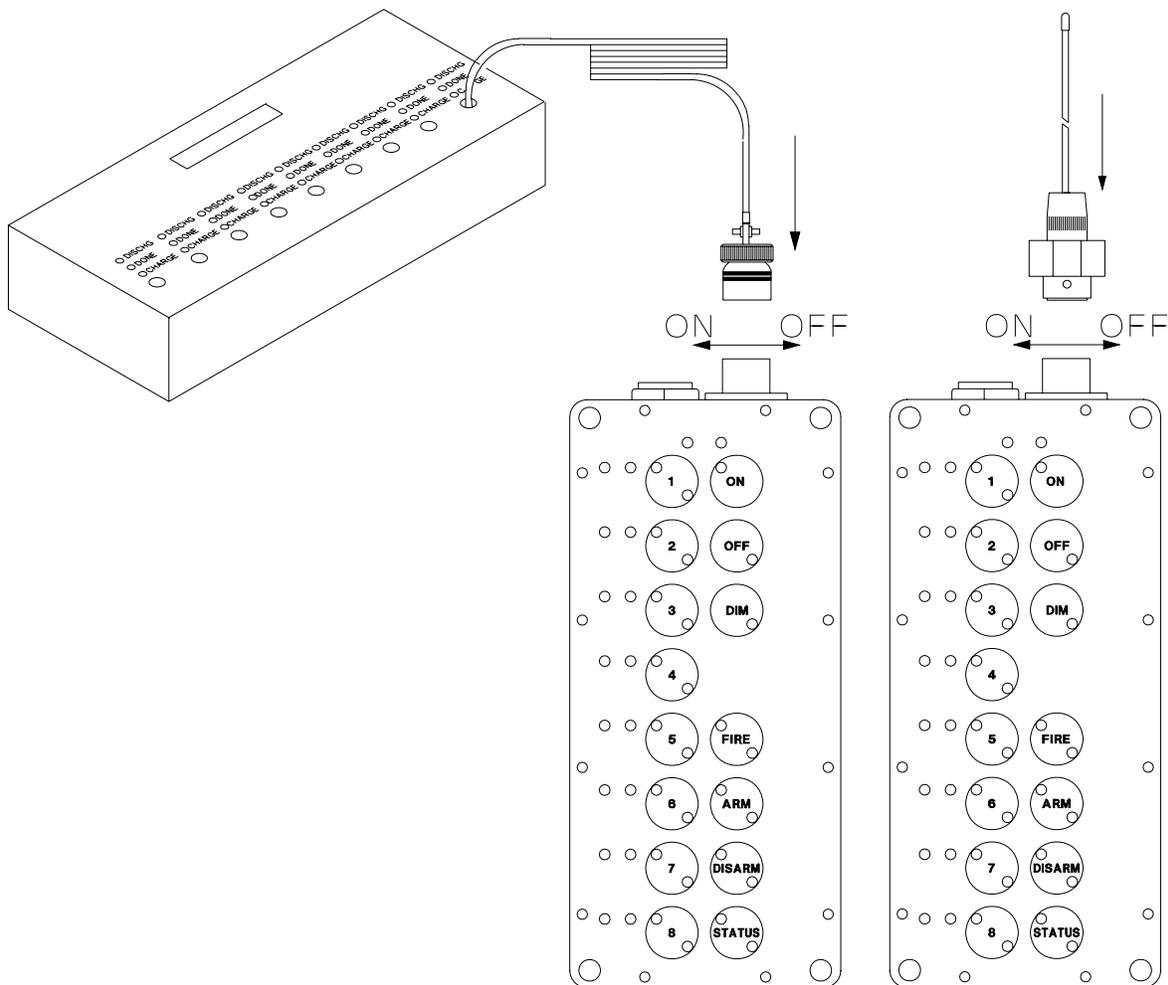
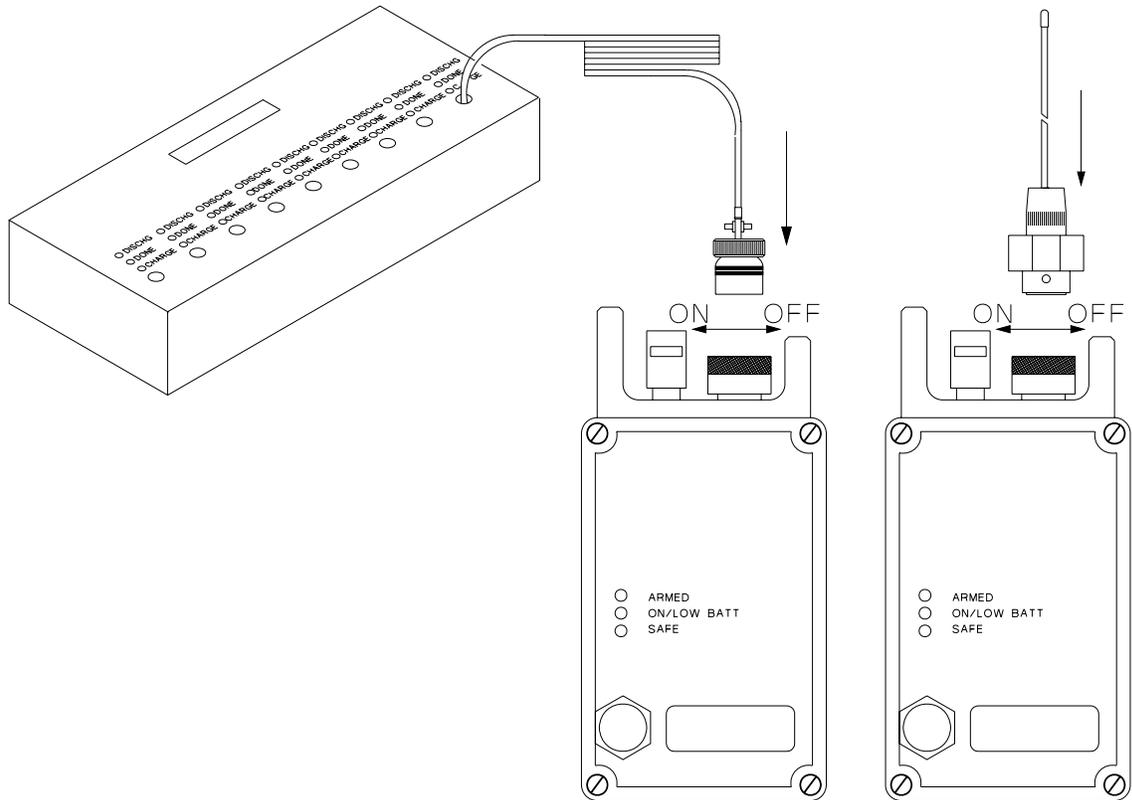

Figure 2-12 Controller Antenna / Battery Charger Connection.
Figure 2-13 Remote Antenna / Battery Charger Connection.
2.12.1. Figure 2-12. & Figure 2-13. The Controller Unit and Remote Unit antenna / battery charger connector accommodates the input requirements for both the Antenna Assembly and the Battery Charger Assembly. The unit electronics and battery pack are only connected together when the Antenna Assembly is connected to the antenna / battery charger Connector.